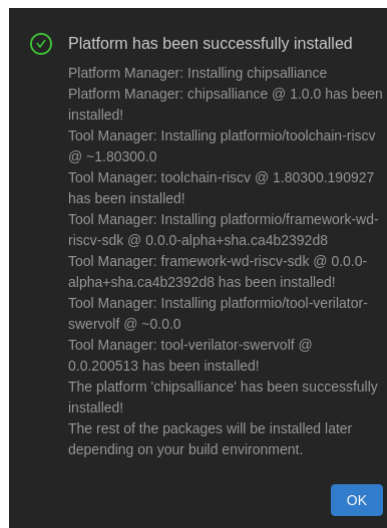

Figure 100. Successful installation of CHIPS Alliance Platform
- Once installation completes, a summary of the tools that have been installed is shown, as in Figure 100. Click **OK** to close that window.